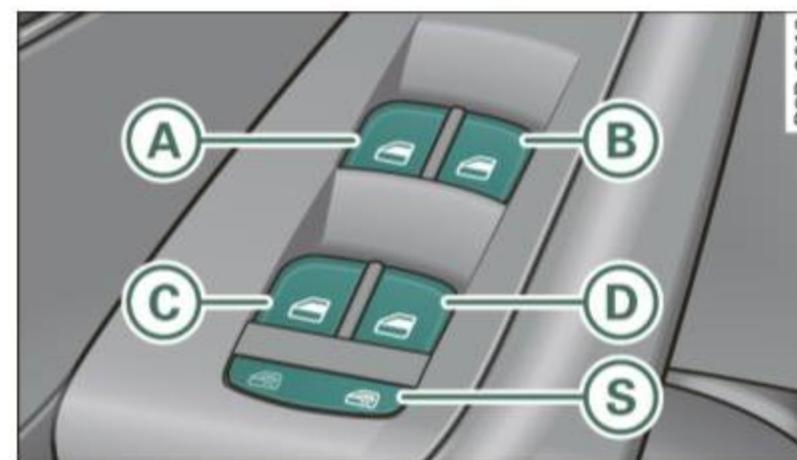

Fig. 46 Section of the driver's door: Controls
When the safety button (S) ⇒ *page 50*, fig. 46 is pressed, the  symbol in the button lights up. The power window switches in the rear doors are switched off.